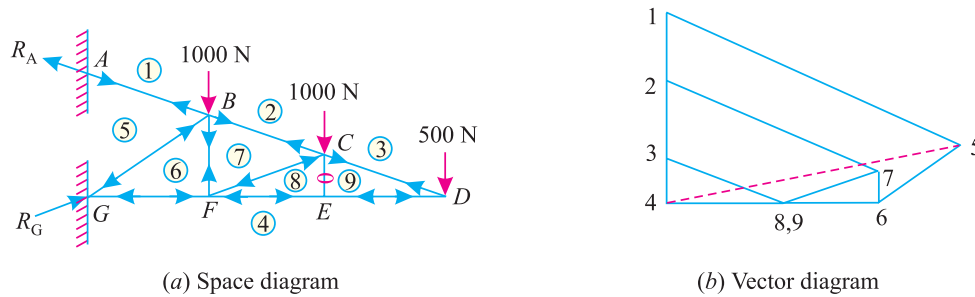

Fig. 14.26.
**Solution.** First of all, draw the space diagram and name all the members and forces according to Bow's notations as shown in Fig. 14.26 (a).
Now draw the vector diagram as shown in Fig. 14.26 (b) starting from the joint D. Measuring various sides of the vector diagram the results are tabulated here :